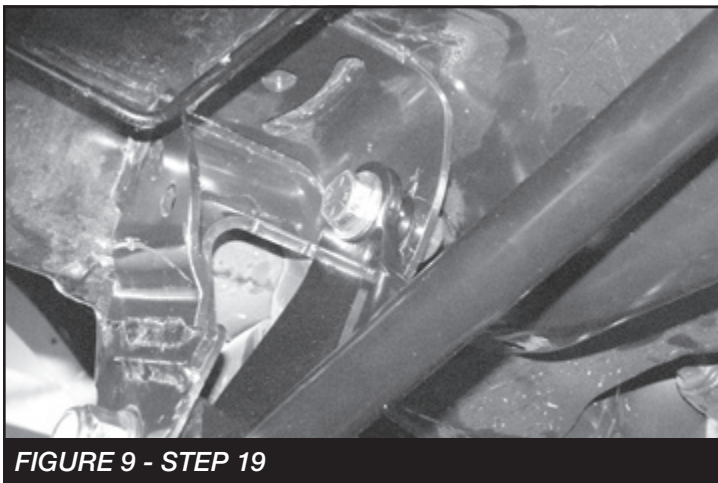

**FIGURE 7 - STEP 17**
17. Swing the bracket back out of the way. Using a 1/2" drill bit, drill out the marked hole. **SEE FIGURE 7**